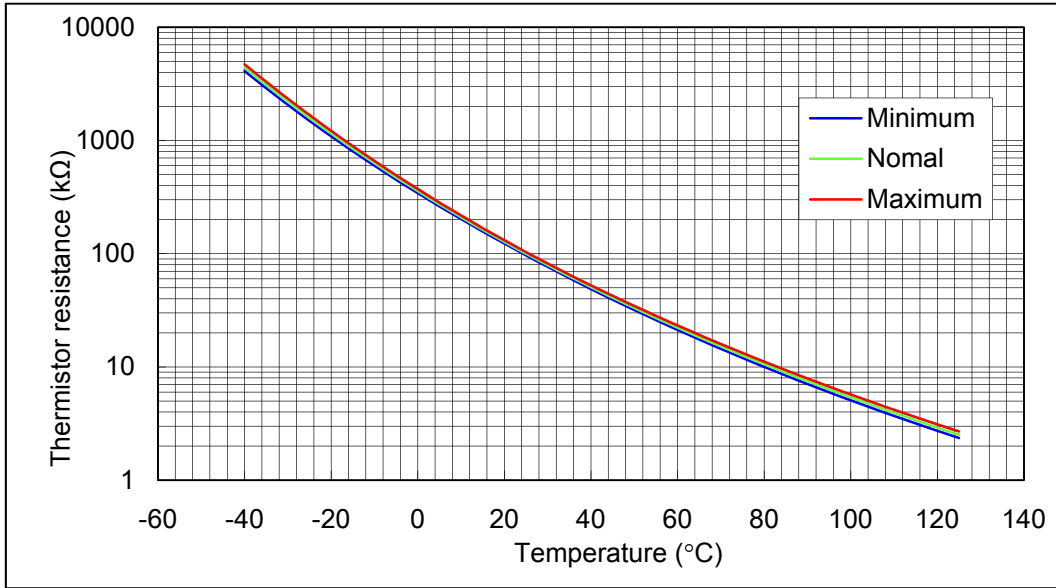
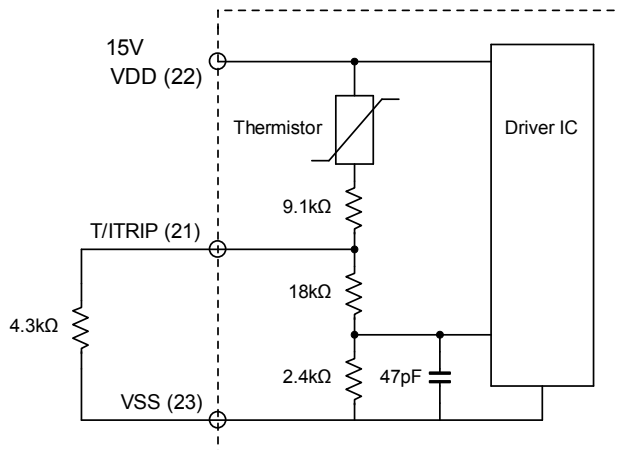

Fig. 10 Variation of thermistor resistance with temperature
Fig. 12 Sample application circuit for temperature monitoring
7. Inside the IPM, a thermistor used as the temperature monitor is connected between  $V_{DD}$  terminal and T/TRIP terminal, therefore, an external pull down resistor connected between the T/TRIP terminal and  $V_{SS}$  terminal should be used. The temperature monitor example application is as follows, please refer the Fig.10, Fig.11, and Fig.12 below.